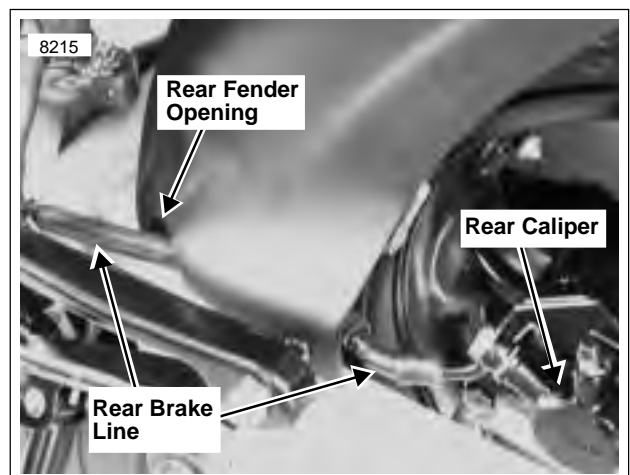

Figure 2-53. Rear Brake Line Routing
3. See Figure 2-53. Working from the right side, install brake line and align metal portion of brake line with rear master cylinder. Route caliper side of brake line in front of tie bar and through rear fender opening to rear caliper.